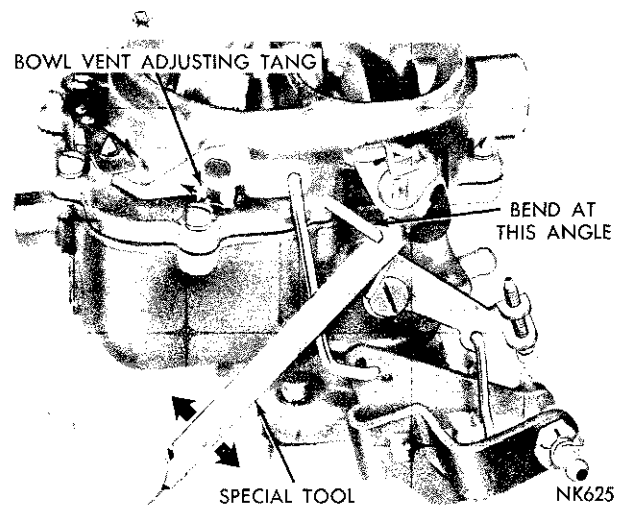

Fig. 15—Bending the Choke Unloader Tang
(2) With a finger lightly pressing against the valve, a slight drag should be felt as gauge is being withdrawn. If an adjustment is necessary, bend the tang on the fast idle lever, using Tool T109-22, as shown in (Fig. 15) until correct clearance has been obtained.